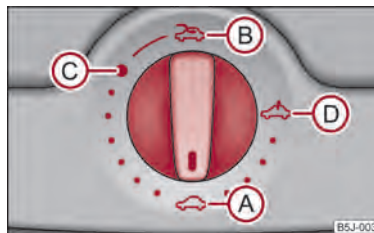

Fig. 20 Detail of the headliner: Control dial for the power sliding/tilting roof
The sliding/tilting roof is operated by means of the control dial ⇒ fig. 20 and only functions when the ignition is switched on. The control dial has several positions.
- Turn the switch to position **C** ⇒ fig. 20.
- Turn the switch to position **A** ⇒ fig. 20.
The sliding/tilting roof is fitted with a force limiter. If an obstacle (e.g. ice) prevents closing, the sliding/tilting roof stops and opens completely. You can close the sliding/tilting roof completely without force limiter by pressing the switch to the **A** position ⇒ fig. 20 at the front for as long as it takes for the sliding/tilting roof to close completely ⇒ **A**.
It is necessary after each emergency operation (using Allen key) to move the sliding/tilting roof into the basic position. Here you have to turn the control dial forward to the switch position  $\Rightarrow$ fig. 20 and press for about 10 seconds. ■